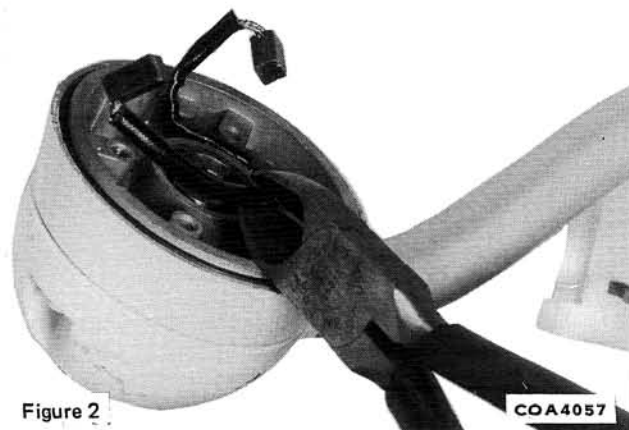

Figure 2
2. Cut top (long) brush lead in commutator head approximately 7/8 inch (22 mm) from epoxy end. See Figure 2.